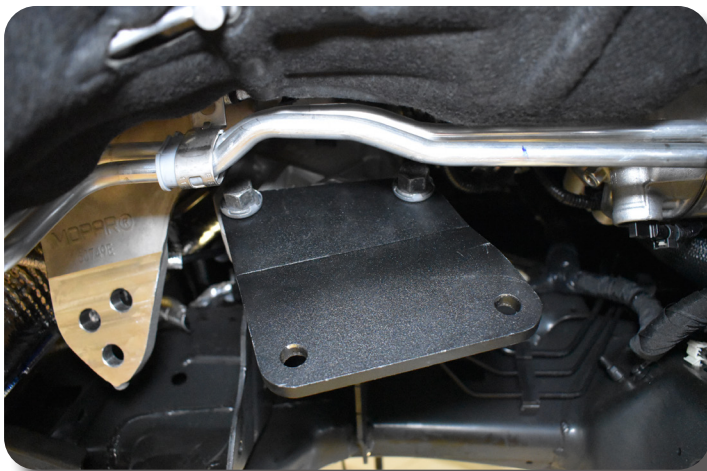

Figure 29
50. Loosely install the driver side front drop bracket to the block mount with the OE mounting bolts. Fig. 29